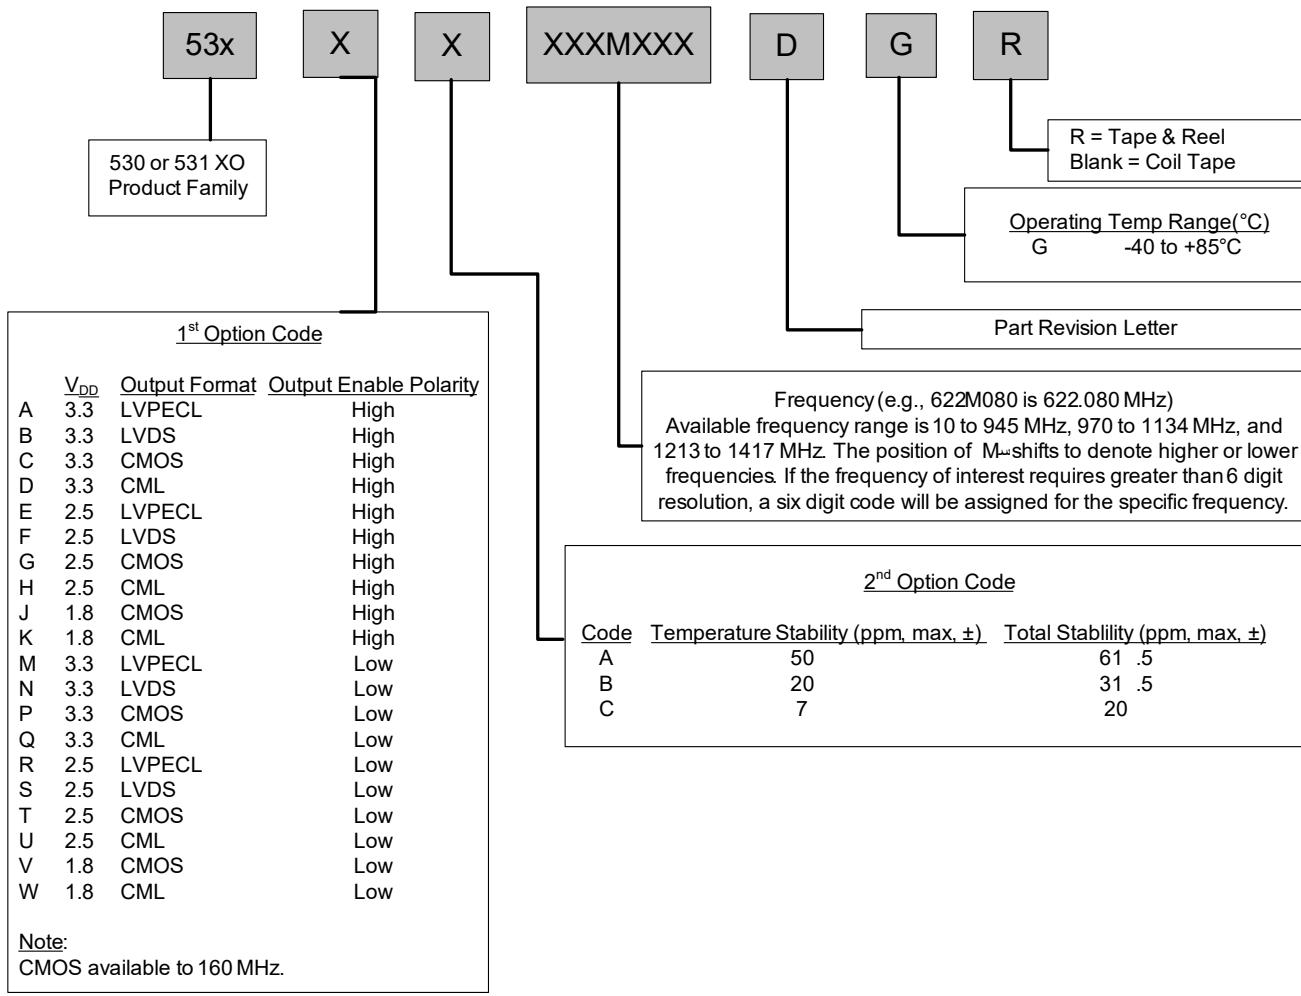

Figure 1. Part Number Convention
- Added Output Enable active polarity as an option in Figure 1, "Part Number Convention," on page 8.
- Updated Figure 1, "Part Number Convention," on page 8.